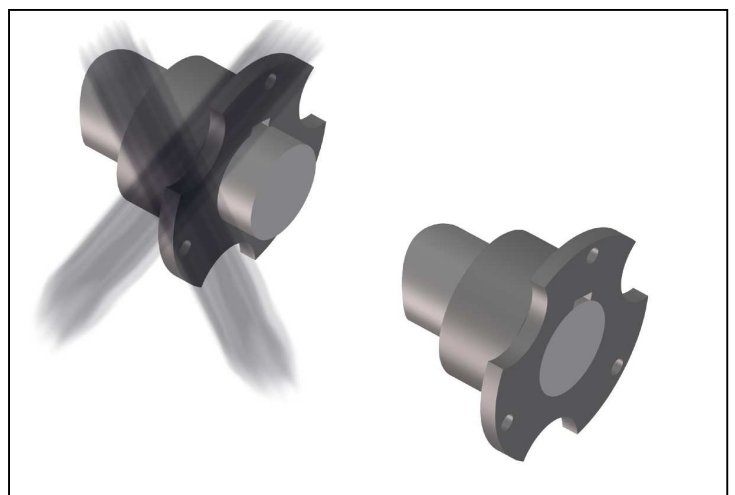

Fig. 4
- Mount the hubs in such a manner that the shaft end is flush with the inner bore opening (Fig. 4). Projecting shaft ends prevent radial mounting and removal of the spacer. Observe deviant agreements, which may exist!